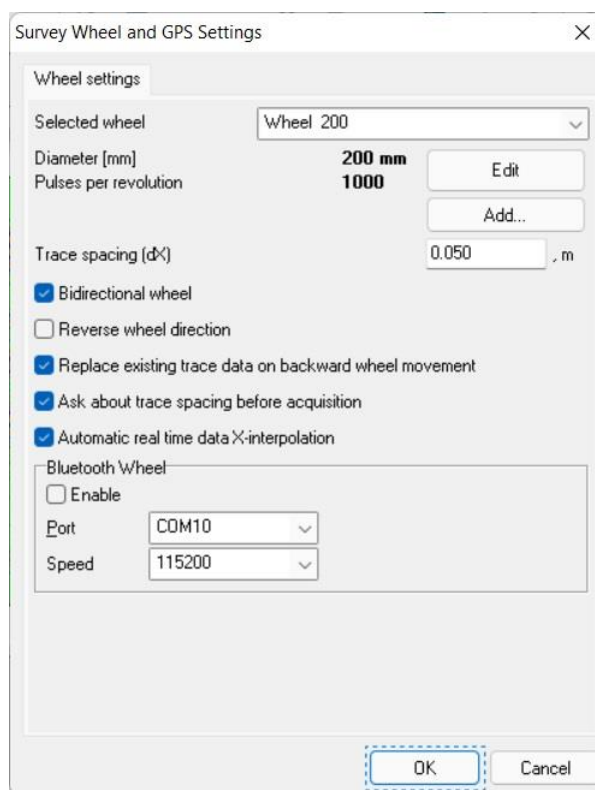

Fig.8.1. Survey wheel settings
- **Wheel** – survey wheel method of positioning. It is possible to use different types of measuring wheels (for example, our current measuring wheel has a diameter of 200 mm, a shock-proof cart wheel has the diameter of 250 mm, but a built-in 1500 MHz antenna wheel has the diameter of 80 mm). The wheel positioning can be selected in the main menu (see Fig. 8.1) or in the GPR Setup (take a look on Section 9. GPR tuning at the page 34). The GPR has a wheel interface and counts pulses got from the wheel encoder. Software has to know the wheel parameters to recalculate it to the traveled distance. A difference of a few mm in diameter can lead to meter errors while measuring the traveled distance. There are two possibilities to describe the wheel: